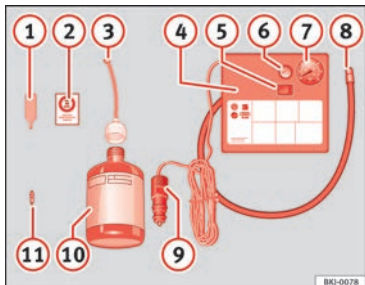

Fig. 61 Standard representation: contents of the anti-puncture kit.
- Unscrew the tyre valve cap and insert. Use the »» Fig. 61 ① tool to remove the insert. Place it on a clean surface.
- Shake the tyre sealant bottle vigorously »» Fig. 61 ⑩.
- Screw the inflator tube »» Fig. 61 ③ into the sealant bottle. The bottle's seal will break automatically.
- Remove the lid from the filling tube »» Fig. 61 ③ and screw the open end of the tube into the tyre valve.
- Place the insert back into the tyre valve using the tool »» Fig. 61 ①.
- Screw the compressor tyre inflator tube »» Fig. 61 ⑧ into the tyre valve.
- Check that the air bleed screw is closed »» Fig. 61 ⑥.
- Insert the connector »» Fig. 61 ⑨ into the vehicle's 12-volt socket »» page 140.
- Turn the air compressor on with the ON/OFF switch »» Fig. 61 ⑤.